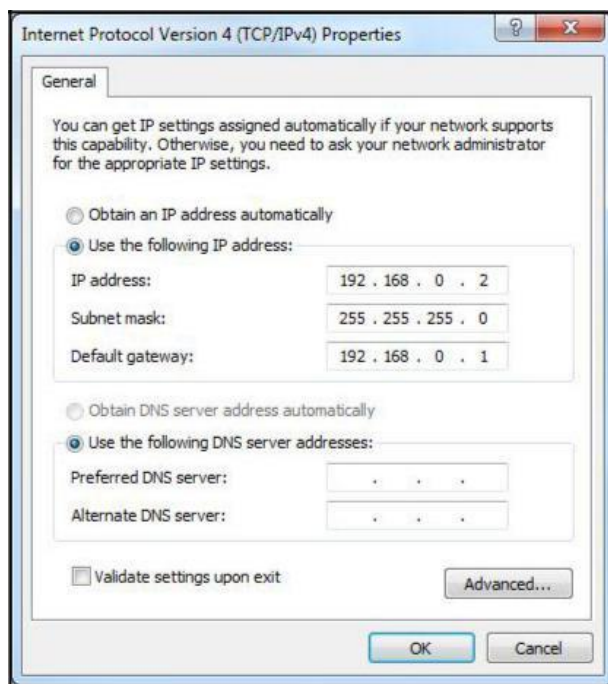

Figure 6. Internet Protocol (TCP/IP) Dialog Box
5. Select **Use the following IP address**. Type an IP address that is inside the range specified by the Satellite Router's IP address and subnet mask. See Figure 6.